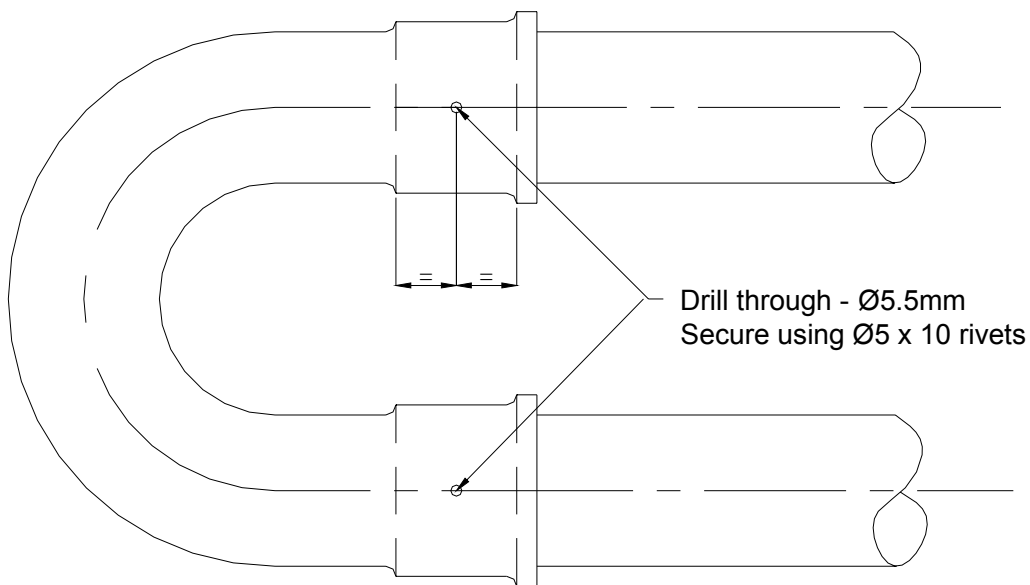

Fig. 20
- 6.3.1 Remove the packaging/protection from the Radiant Tubes and ensure that they are clear internally. Place the Radiant Tubes on trestles, providing 150mm minimum clearance above the floor and space 305mm apart with the ends of the tubes in line. Ensure that the welded seam of the tube is in contact with the hanger bracket (see 6.3.2 below) i.e. facing away from the reflector. Assemble the U Bend to the tubes, ensuring that the U Bend engages fully. Drill one Ø5.5mm hole through the U bend and Radiant Tube in the upper surface of each leg of the U Bend, at a distance midway along the swaged portion of the 'U' bend as shown in Fig. 20. Rivet the U Bend to the Radiant Tubes using the two Ø5 x 10 rivets provided (fastenings pack).